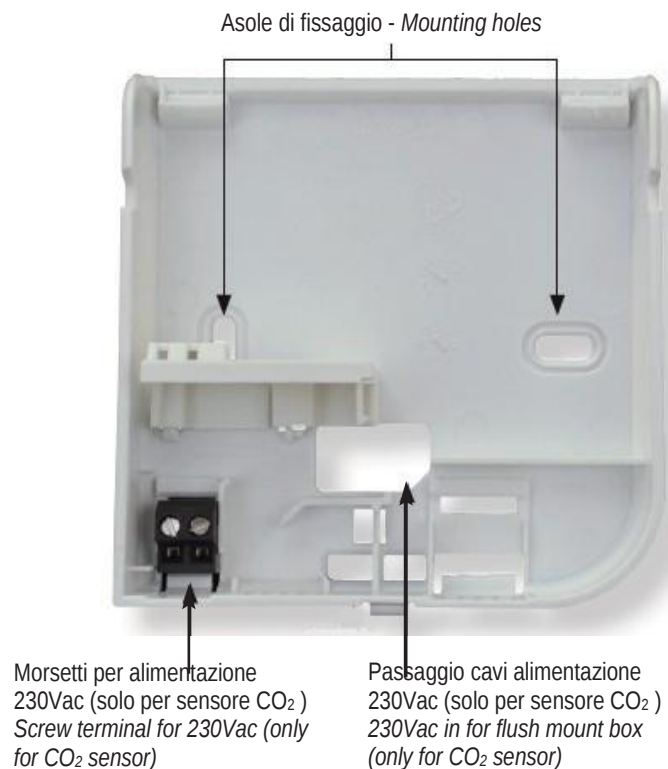

fig. 16
- controllore elettronico a microprocessore, installato a bordo (fig.16).
- Electronic control board with installed microprocessor (fig. 16).